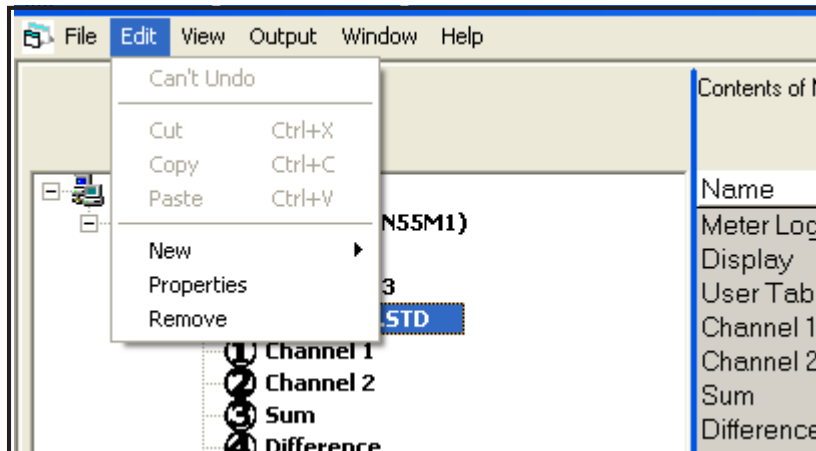

Figure 49: Properties Option
2. Right-click on the highlighted XGF868i and select the *Properties* option, as shown in *Figure 49* below.